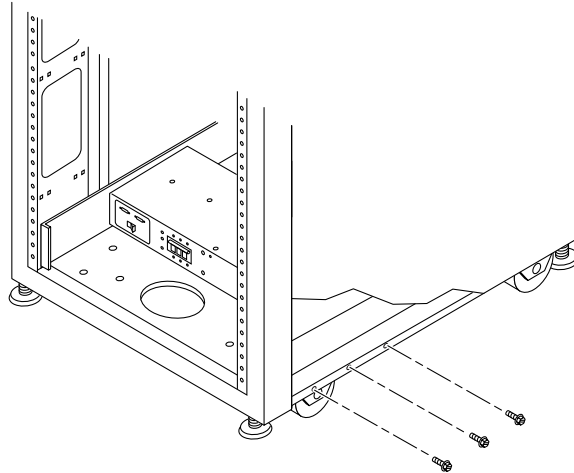

FIGURE 3-5 Removing the Bottom Right Front Mounting Screws
1. Remove the three mounting screws on the bottom right side at the front and the three mounting screws on the bottom right side of the back of the system (FIGURE 3-5).